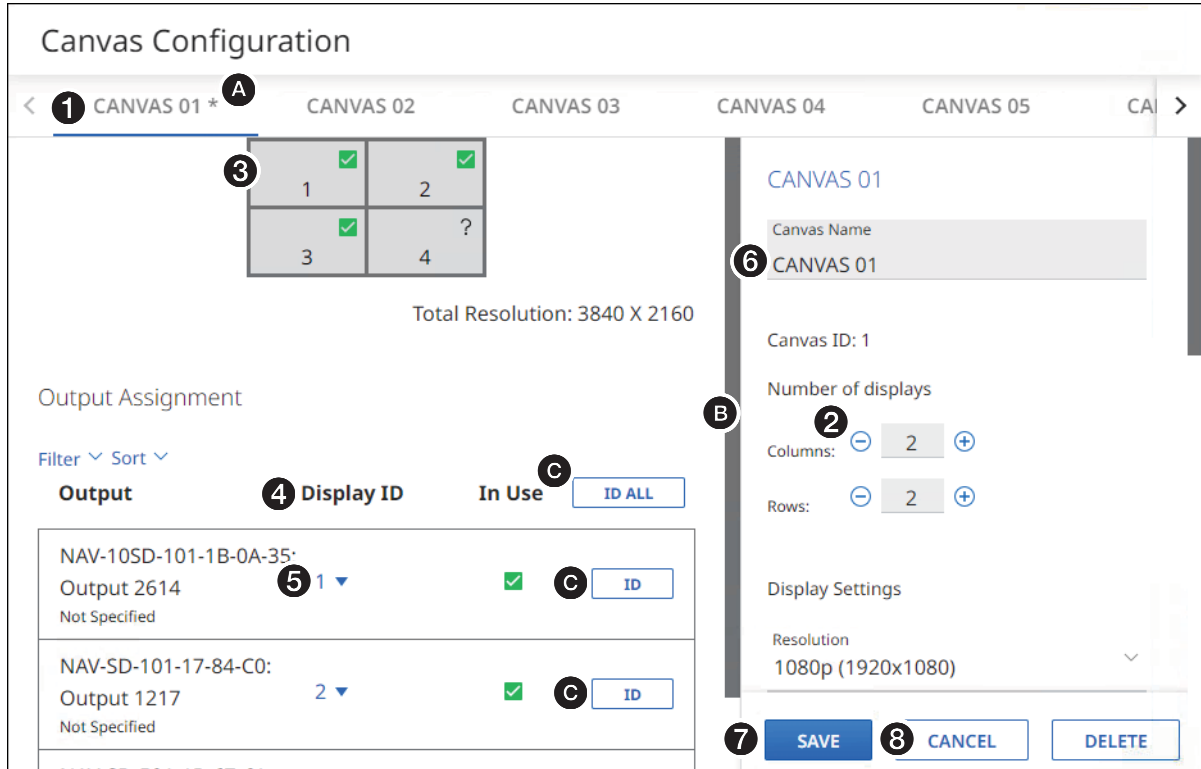

Figure 64. Canvas Configuration
2. If necessary, click **WINDOWALL > Canvas Configuration** (see 1 > 2 in the illustration at right). The Canvas Configuration page opens (see figure 64 on page 63).
3. Click the appropriate **Canvas** tab to select the canvas to configure (see figure 64, 1).
- Configure the size of the canvas (the number and arrangement of the displays) by clicking in the **Columns** and **Rows** fields (see figure 64, 2) and editing them as desired (or click + or - to increment or decrement the field value). The valid range for both fields is from 1 to 8. The canvas view (3) shows the arrangement of the displays. The Save button (7) becomes available.
- If necessary, click and drag the left scroll bar (B) to display additional decoders.
- Press and release the device **ID** button on the front panel of a decoder to highlight the **ID** field in the **Output Assignment** area (C). Press and release the button again to clear the highlight.
- Click the **ID** button or **ID All** button (C) in the **Output Assignment** area to toggle the front panel ID LED and the on-screen display Status Screen for an individual decoder or all decoders on and off.
- If desired, highlight the **Canvas Name** field (see figure 64, **6** on page 63) and enter a custom name for the canvas.